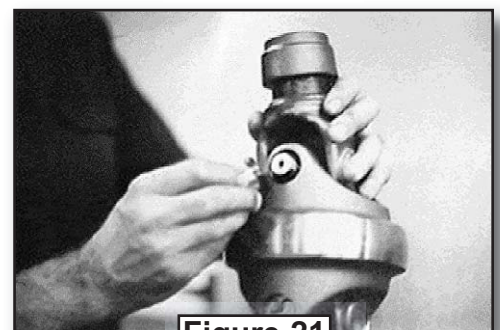

Figure 21
25. Repeat steps 14 - 24 for the end yoke (see *Figure 21*).